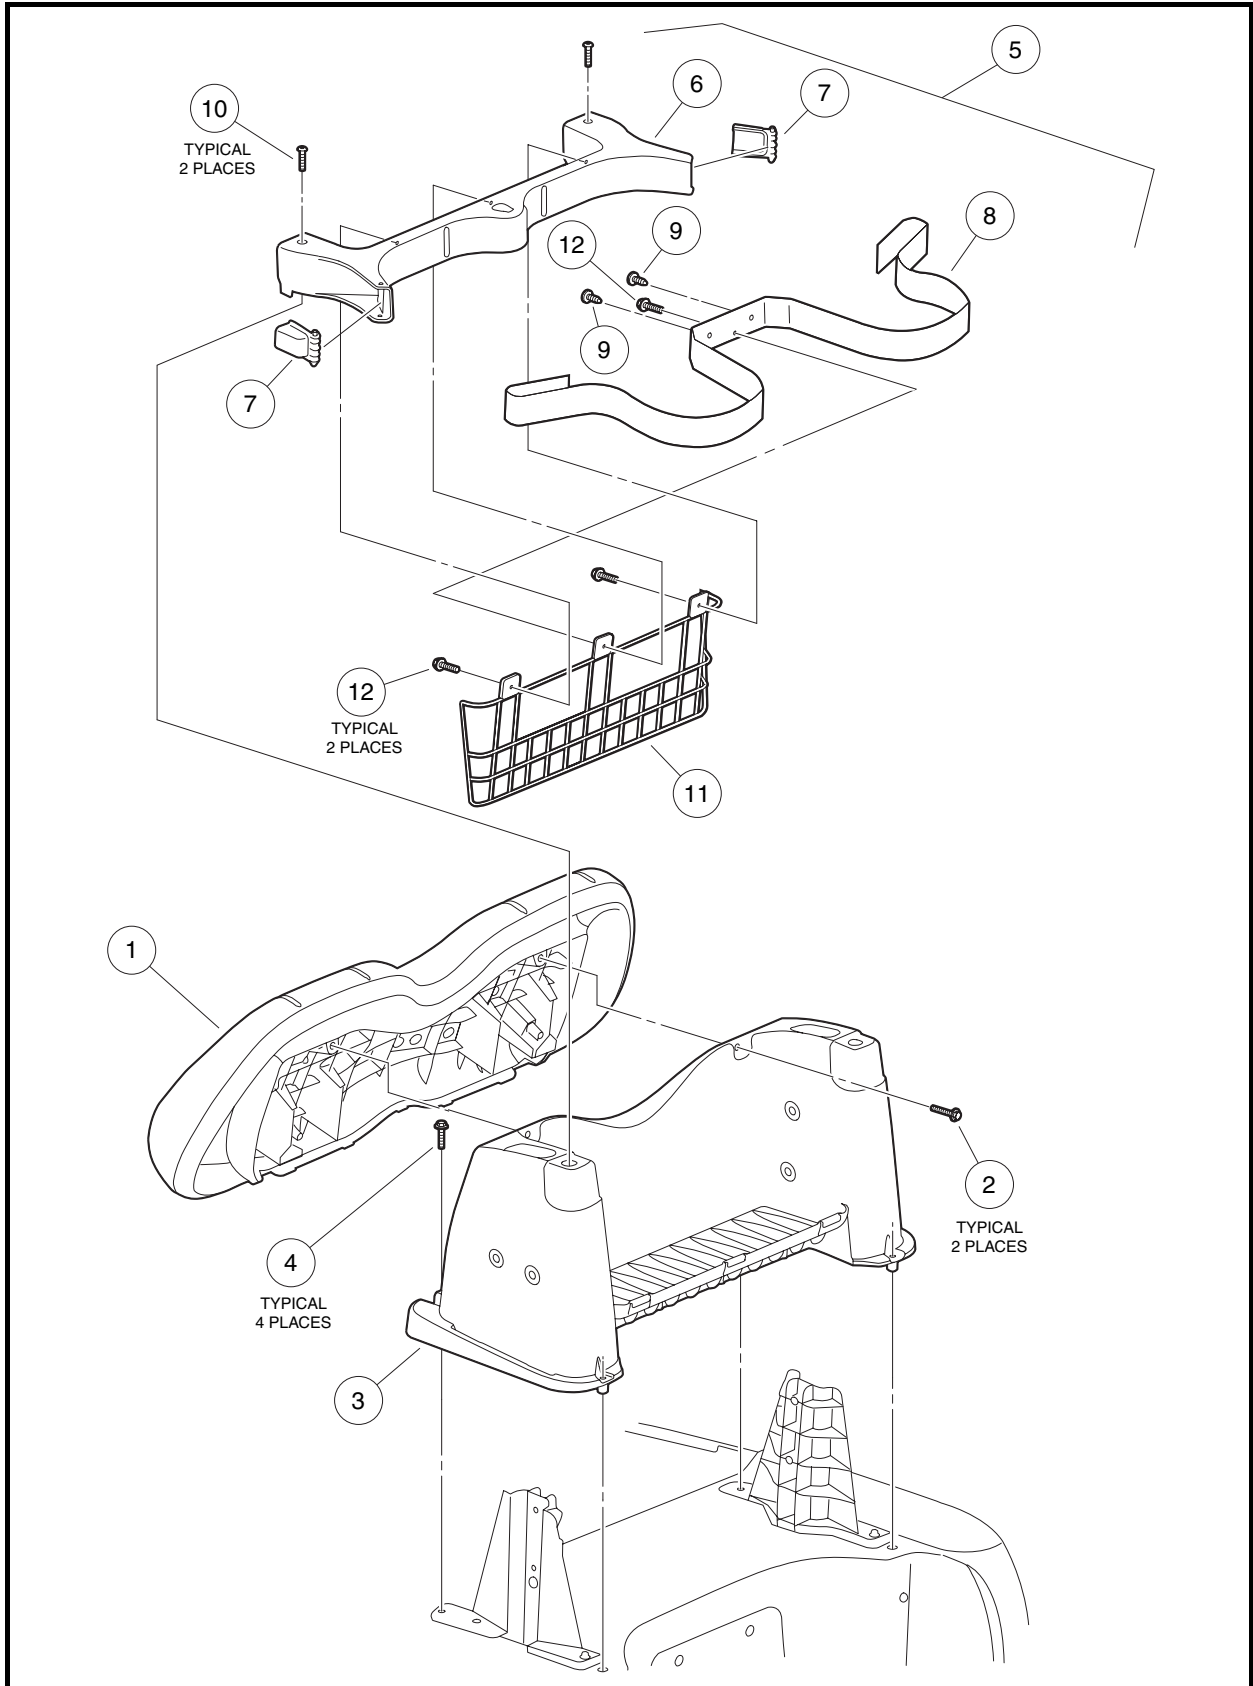

Figure 4-7 Backrest and SAM
2. Remove four bolts (4) to release the SAM (3) from the vehicle (**Figure 4-7, Page 4-9**).
1. Position the SAM (3) over its mounting holes and secure with four screws (4). Tighten screws to 53 in-lb (6 N·m) (**Figure 4-7, Page 4-9**).
The backrest (1) is secured to the SAM (3) with two screws (2) (**Figure 4-7, Page 4-9**). When replacing the backrest, tighten screws (2) to 5.9 ft-lb (8 N·m).
1. Remove two screws (10) to release the bag hoop (6) and related components from the SAM (3) (**Figure 4-7, Page 4-9**).
2. Bag strap (8) may be released by removing two plastic barrel connectors (9) and one screw (12).
3. Bag strap buckles (7) may be snapped out of bag hoop (6).
Installation is the reverse of removal. Tighten screw (12) to 4.8 ft-lb (6.5 N·m) and screws (10) to 7.5 ft-lb (10 N·m) (**Figure 4-7, Page 4-9**).
The sweater basket (11) is secured to the bag hoop assembly by three screws (12). Tabs on the upper edge of the basket align with holes in the bag hoop (6) for installation purposes. Tighten screws (12) to 4.8 ft-lb (6.5 N·m) to secure the sweater basket (**Figure 4-7, Page 4-9**).